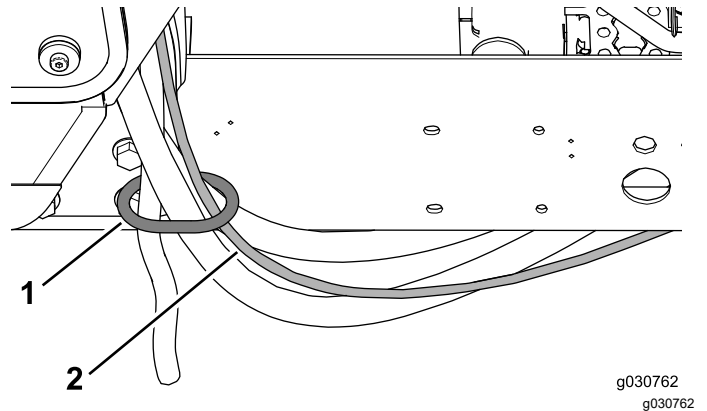

Figure 47
1. Route the washer hose through the hose ring on the rear cab mount (Figure 47).